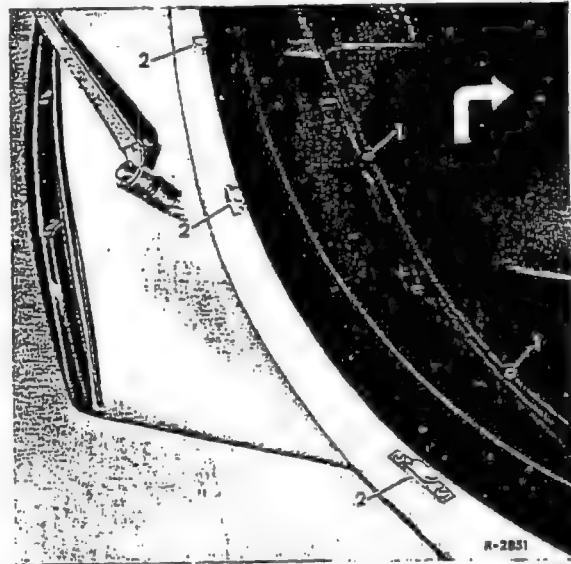

Fig. 68-3/1
2. Slide a plastic or wooden wedge between the rubber seal and the garnish molding and press the garnish molding out of the clips (2) toward the front by tilting the wedge (see Fig. 68-3/1).
2. Remove the self-tapping screws (1) for the attachment of the padding (Fig. 68-3/1).